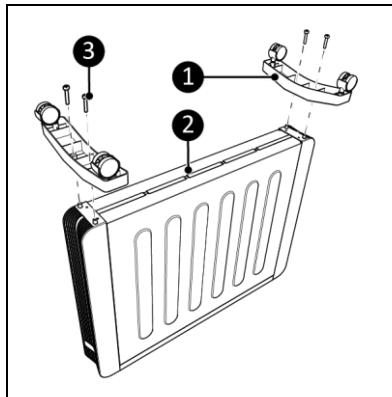

Figure 4
- Screw and tighten the pedestals (Figure 4, pos. 1) to the bottom of the heater (Figure 4, pos. 2) using the included screws (Figure 4, pos. 3).